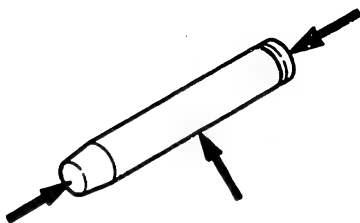

Fig. 116 Pin
5. Check that the pin's surface and both tips are not worn, scratched or damaged excessively. Replace the pin if defective. (Fig. 116)